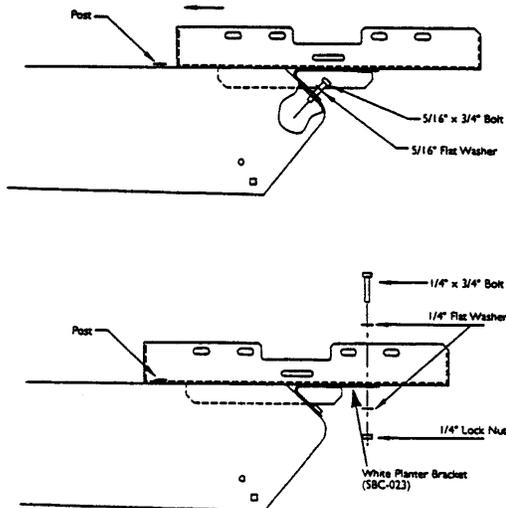

Figure 8
3. Orient SmartBox® cradle as shown in Figure 8.